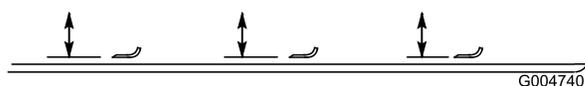

Figure 91
- Rotate the blade until the ends face forward and backward (Figure 91). Measure from the inside of the cutting unit to the cutting edge at the front of the blade. Remember this dimension.